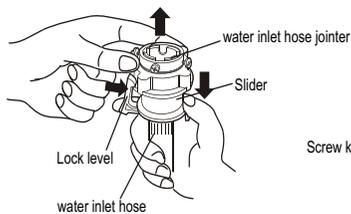
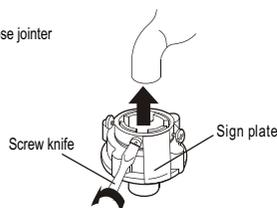
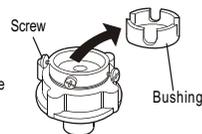

Figure 1
Figure 2
Figure 3
<p>Clean the detergent box and set it on the control panel seat.</p> <p>1.The method of dismantle: Push it up aslant and gently</p> <p>2.The method of install : install it upwards and aslant and push it in .</p>  <p>Dismantle Install</p>	<ul style="list-style-type: none"> • The lint filter must be used during washing. • It must be cleaned in time after each using. <p>Lint filter:</p> <ol style="list-style-type: none"> 1.Push down the spring piece of the top lint filter to make the claws out of the filter cover, and then pull out the lint filter to get it down. (figure1) 2.Pull the back of the lint filter, and then you can get down it off the front cover of the lint filter. (figure2) 3.Sweep the rubbish in the lint filter. 4.Put the back of the lint filter into the front cover . 5.Put the lint filter into filter cover, and make it tight . 6.Make sure the lint filter well installed, or it can influence your use.  <p>Figure 1</p>
2. Put down the drain hose. Take off the drain hose frame as indicated in Figure 1. Take the drain hose into the cabinet, then nip the drain fixing clamp to make it deviated from the clip, the other hand is used to put down the drain bushing, as indicated in Figure 2, 3.
1. Press the lower end of the lock lever and push down the slider. Take off the water inlet hose jointer from the water inlet hose component. See to Figure 1.
2. Loosen the screw till the water faucet can be accessed. Put the jointer of the water inlet hose on the faucet. See to Figure 2. (If the faucet is too large and the jointer can not be set on the water faucet, please loosen the four screws and take out the bushing in the jointer. The front end of the faucet must be smooth, otherwise it may leak water. See to Figure 3.)